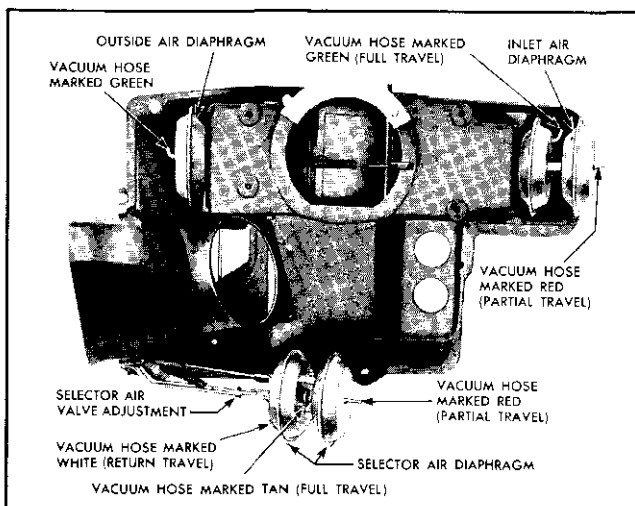

Fig. 6-51 Identification of Diaphragms and Vacuum Hose Connections
3. Replace by reversing above procedure, making sure vacuum hoses are properly connected (Fig. 6-51).